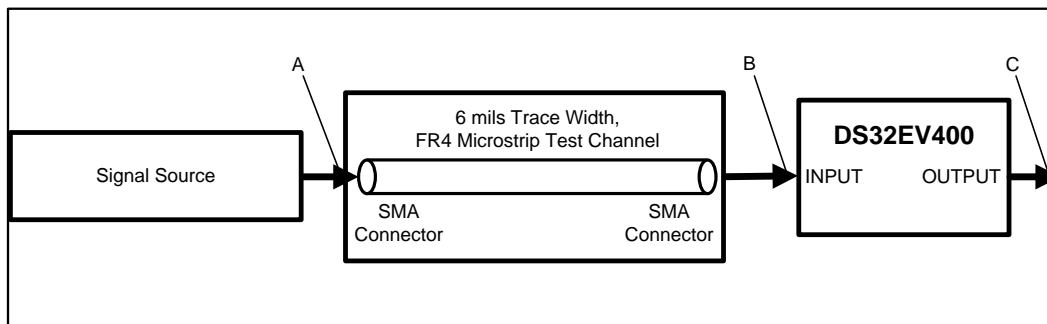

Figure 1. Test Setup Diagram
(6) Measured with clock like {11111 00000} pattern.
(7) Specification is ensured by characterization and is not tested in production.
(8) Deterministic jitter is measured at the differential outputs (point C of Figure 1), minus the deterministic jitter before the test channel (point A of Figure 1). Random jitter is removed through the use of averaging or similar means.
(9) Random jitter contributed by the equalizer is defined as $\sqrt{J_{OUT}^2 - J_{IN}^2}$. J_{OUT} is the random jitter at the equalizer outputs in ps-rms, see point C of Figure 1; J_{IN} is the random jitter at the input of the equalizer in ps-rms, see Figure 1.